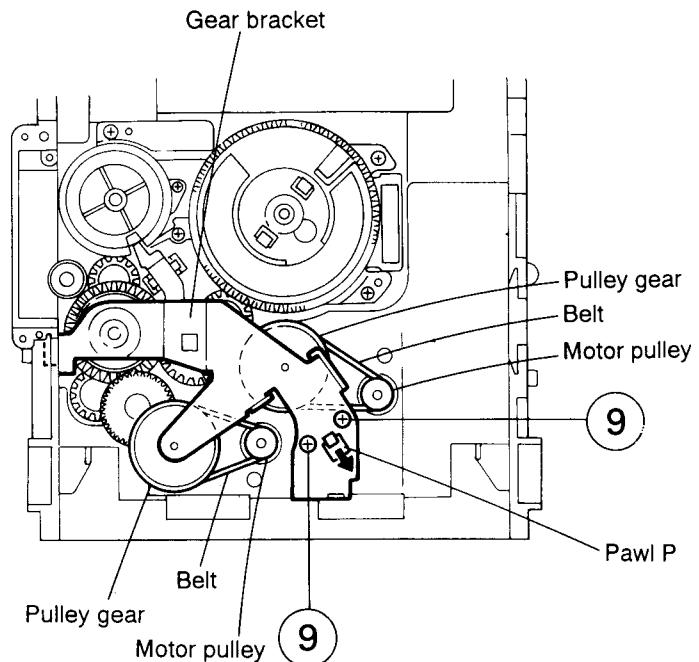

Fig. 2-25
(See Figs. 2-25 to 2-28)
1. Remove the two screws ⑨ retaining the gear bracket (See Fig. 2-25).
2. While pressing the pawl (P) fixing the gear bracket in the arrow direction, remove the gear bracket (See Fig. 2-25).